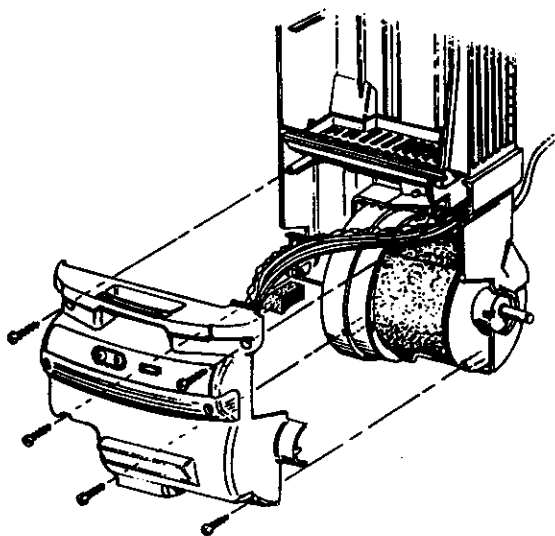

Fig. 19
1. Remove five screws and lift off (Fig. 19)